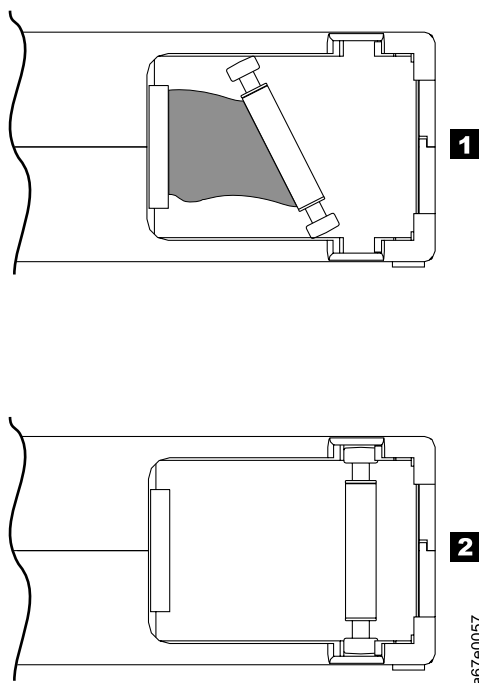
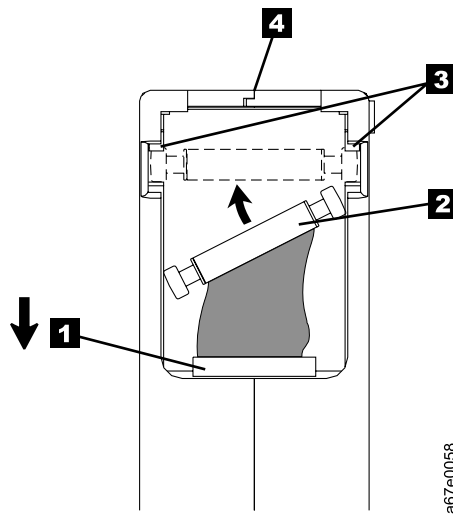

Figure 10. Leader pin in the incorrect and correct positions. The cartridge door is open and the leader pin is visible inside the cartridge.
Figure 11. Placing the dislodged leader pin into the correct position. The cartridge door is open to show the leader pin.
- Do not drop the cartridge. If the cartridge drops, slide the cartridge door back and ensure that the leader pin is properly seated in the pin-retaining spring clips (see Figure 10 on page 30). Inspect the rear of the cartridge (the part that you load first into the tape load compartment) and ensure that there are no gaps in the seam of the cartridge case (see **4** in Figure 11 on page 31). If the leader pin has become dislodged or if there are gaps in the seam of the cartridge case, go to “Repositioning or Reattaching a Leader Pin” on page 30.
A leader pin that is improperly seated inside a cartridge can interfere with the operation of the drive. Figure 10 shows a leader pin in the incorrect **1** and correct **2** positions.
1. Slide open the cartridge door (**1** in Figure 11) and locate the leader pin **2** (you may need to shake the cartridge gently to roll the pin toward the door).